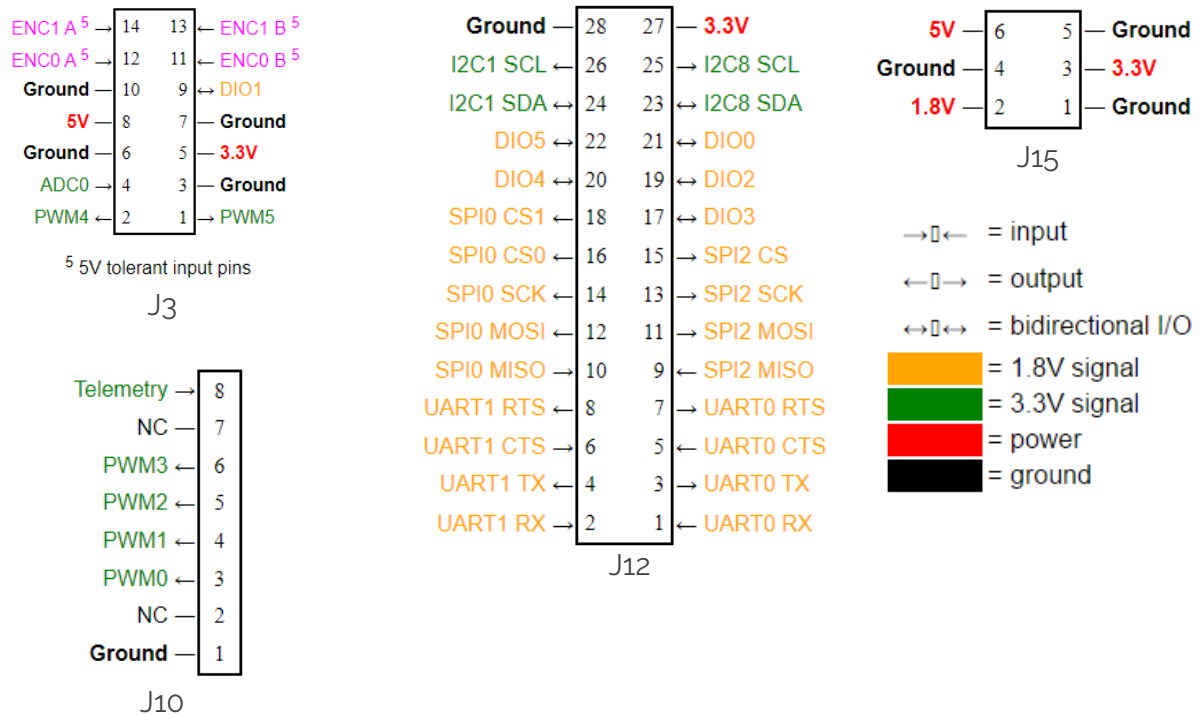

Figure 10. Pin I/O diagram (max current - 5A for 5V pins, 5A for 3.3 V pins, 0.2A for 1.8V pins)
* See figure 10 for pin diagram
Table 12. QCar PCB components (* See Figure 10 for pin diagram)